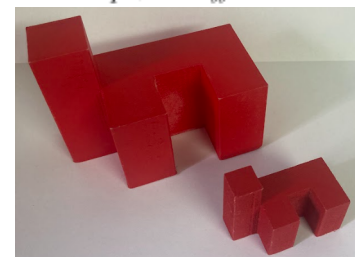

Figure 3: Two 3D objects of the same shape, but at different scales
3. *The scale (Figure 3):* The 2D drawings define the scale of the drawing in the title block. The scale is either 1:1 or 2:1. The scale detail note is small, which encourages students to practice good attention to detail. Students commonly incorrectly matched with the wrong scale.